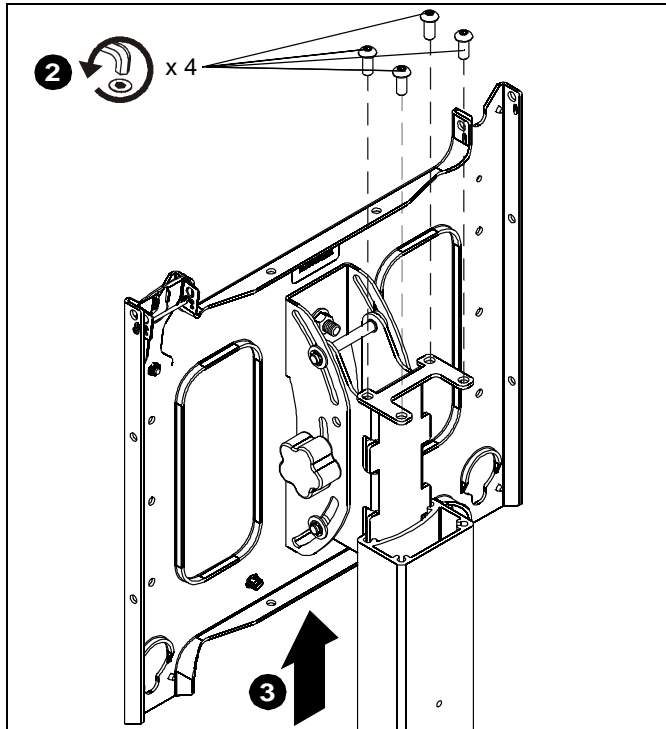

Figure 1
2. Remove four button head screws from faceplate. (See Figure 1)
3. Remove faceplate from column assembly. (See Figure 1)
- Place plate on gas spring mount for stand (B) [or plate on gas spring assembly (A) for cart] at top of upper cart/stand column. (See Figure 1)